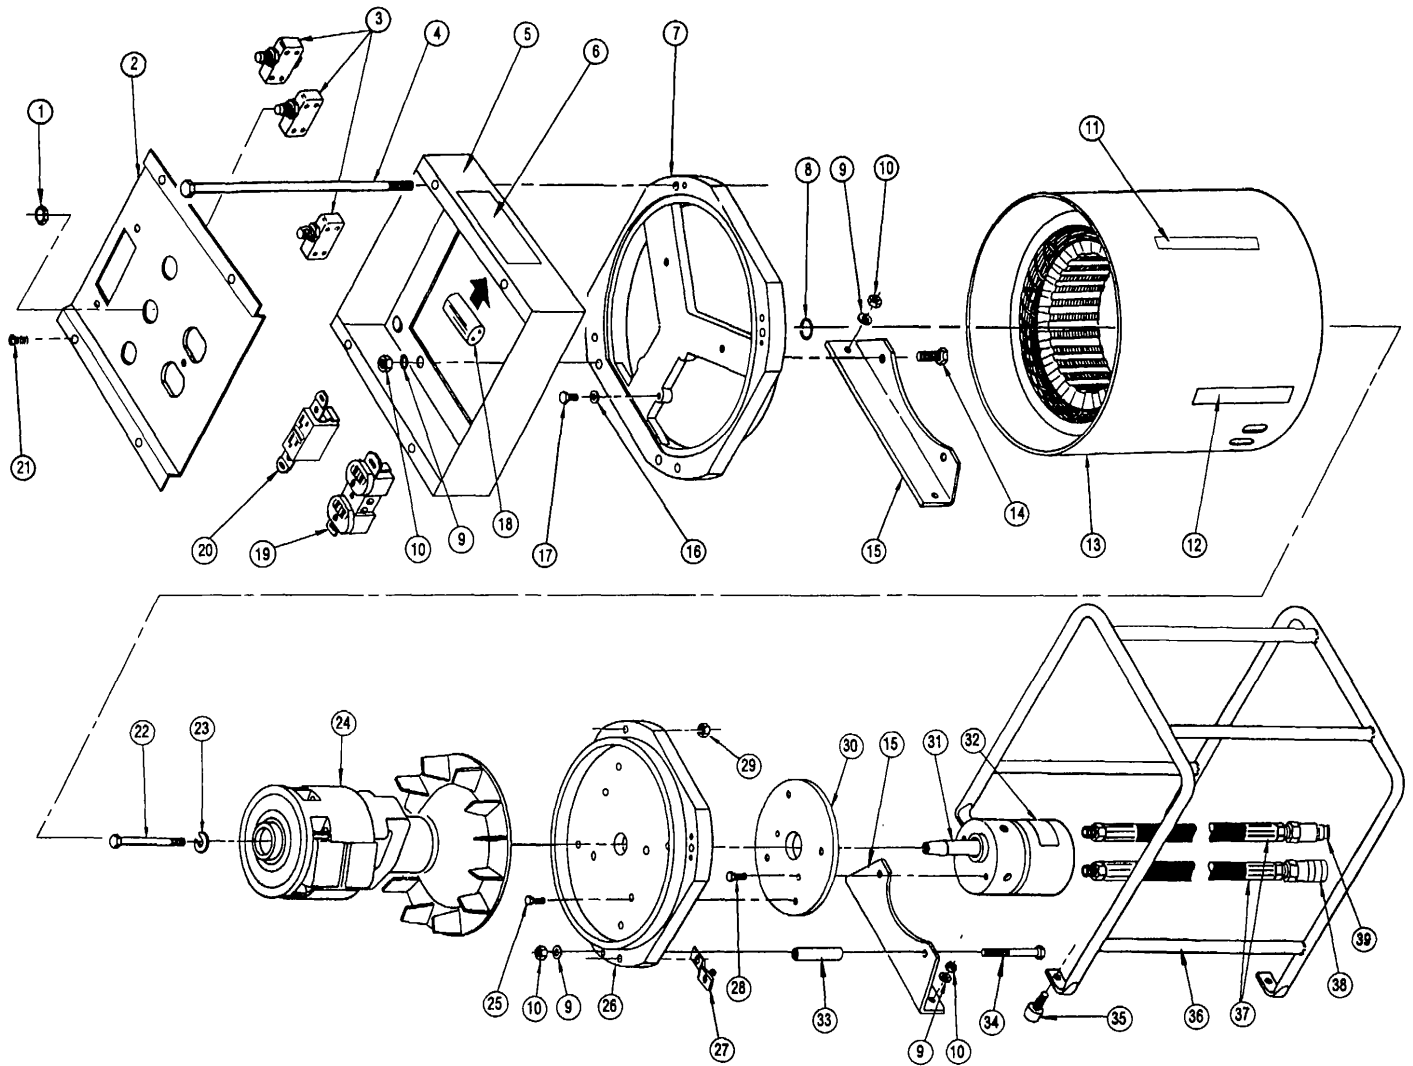

FIGURE 2. Hydraulic Motor Generator Assembly
1. Place the Hyrevz motor (31, figure 2) in a softjawed vise. Install the Hyrevz motor on the motor adapter plate (30) using the two 5/16-18 x 3/4 inch/i 19 mm long capscrews (28).
2. Secure the motor adapter plate (30) to the inboard engine end adapter (26) using the four 3/8-16 x 2 inch/51 mm long capscrews (25).
Loss of residual magnetism.	Flash the Field. 1. Stop the generator. 2. Remove the receptacle panel (2, figure 2). 3. Using a 12 volt automotive battery, touch the positive lead to the end of the diode set with the white or silver band located on the rotor assembly. At the same time touch the negative lead to the opposite end of the diode set. Hold the leads across the diode set for 2-4 seconds. NOTE: Do not reverse the polarity of the leads. This may cause damage to the diodes or the rotor or both. 3. Replace the receptacle panel and start the generator.